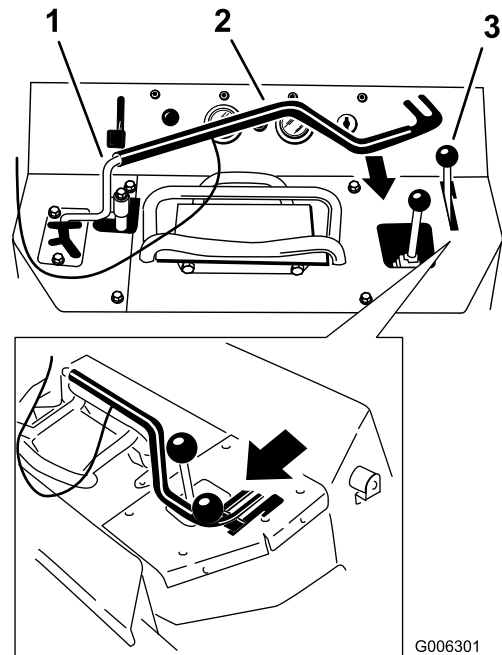
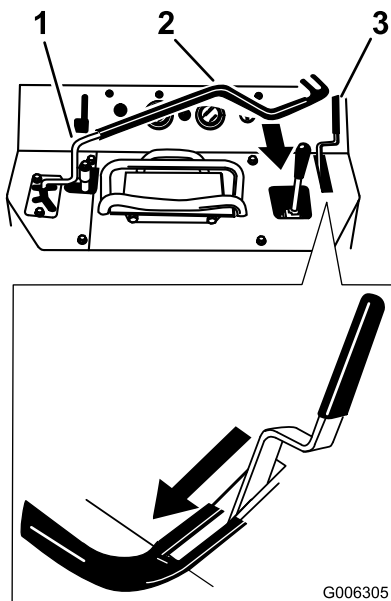

Figure 6
Figure 7
- Set the parking brake, to the **on** position, into the slot so that the clamp catches under the brake lever (Figure 6 or Figure 7).